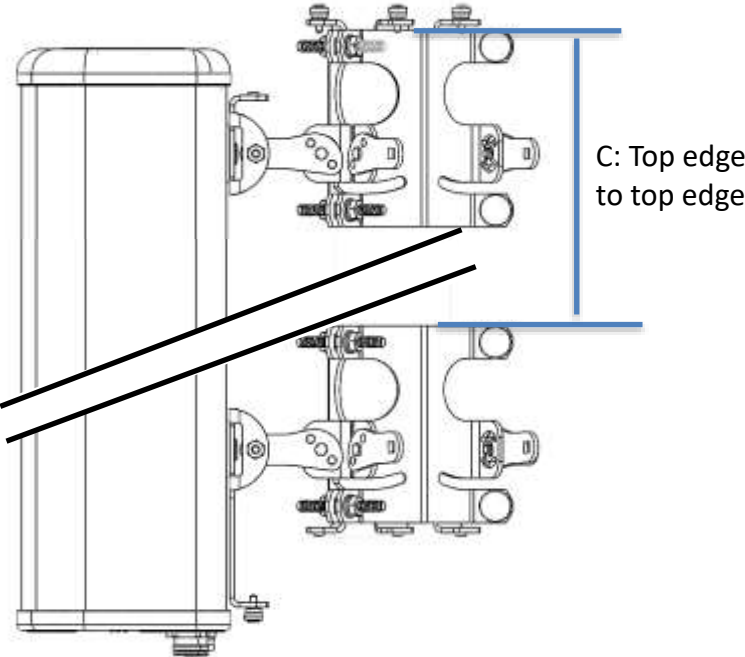
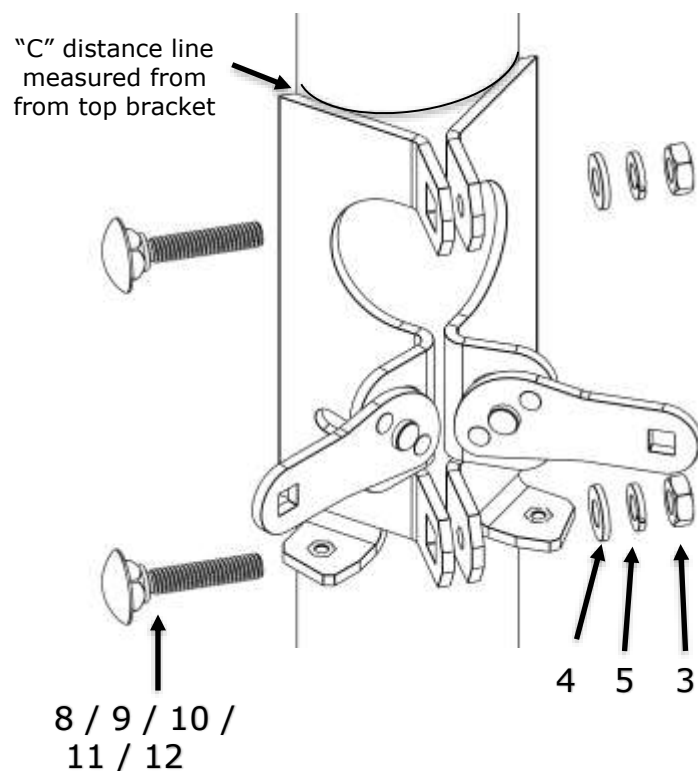
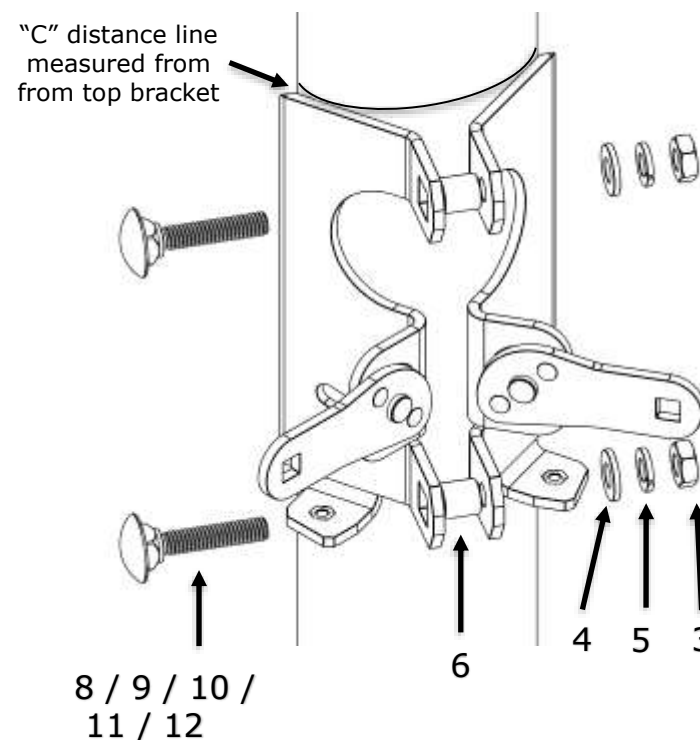

Figure 9: Attach top brackets to pole – 3.5” diameter shown as example
Figure 11: Attach bottom brackets to pole – 3.5" diameter shown as example
Figure 12: Attach bottom brackets to pole – 4.0" diameter shown as example
4. Using *Figures 9 and 10* and *Table 6*, measure “C” in. from top edge of top bracket to top edge of bottom bracket, and mark placement for bottom brackets along the circumference of the pole.
5. Install three bottom brackets around the pole with selected hardware. See *Figure 11* (example 3.5" pole diameter) and *Figure 12* (example 4" pole diameter) Align the top edge of the bottom brackets to the mark made in Step 4, *Figures 9 and 10*.